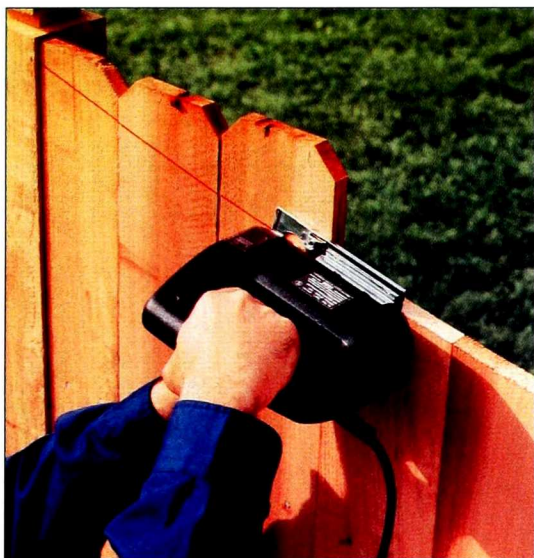

Figure 13: Cut the curves with a jigsaw, finishing the ends with a coping saw if necessary. Smooth the cut ends of the boards with a rasp.
- Cut out the curve with a jigsaw (Figure 13), finishing the end of the cut with a coping saw if necessary, and smooth the cut edge of the boards with a rasp.